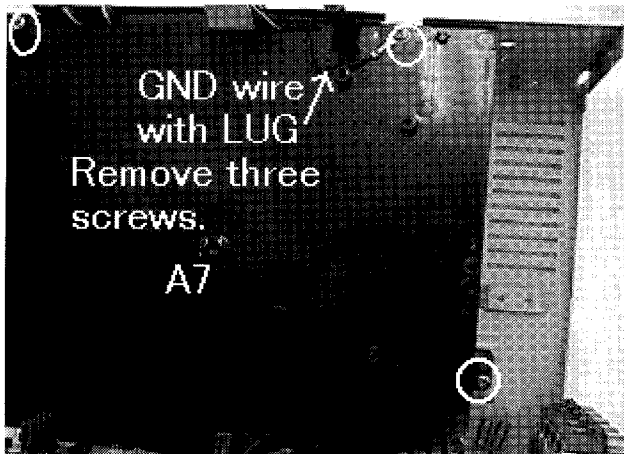
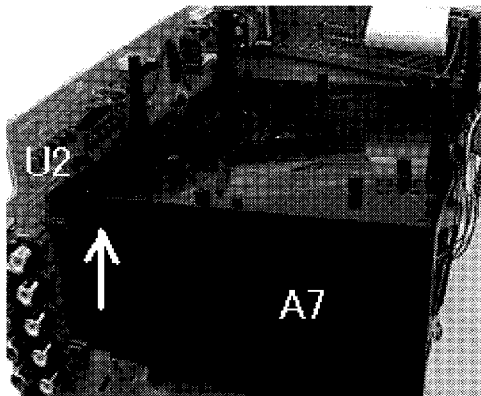

Fig. 7
Fig. 8
12. Remove three Screws which is fixing Holder(MEC)(A7).(See Fig. 7.) When you remove Holder, it is easy to pull back it together with U2. (See Fig. 8.)